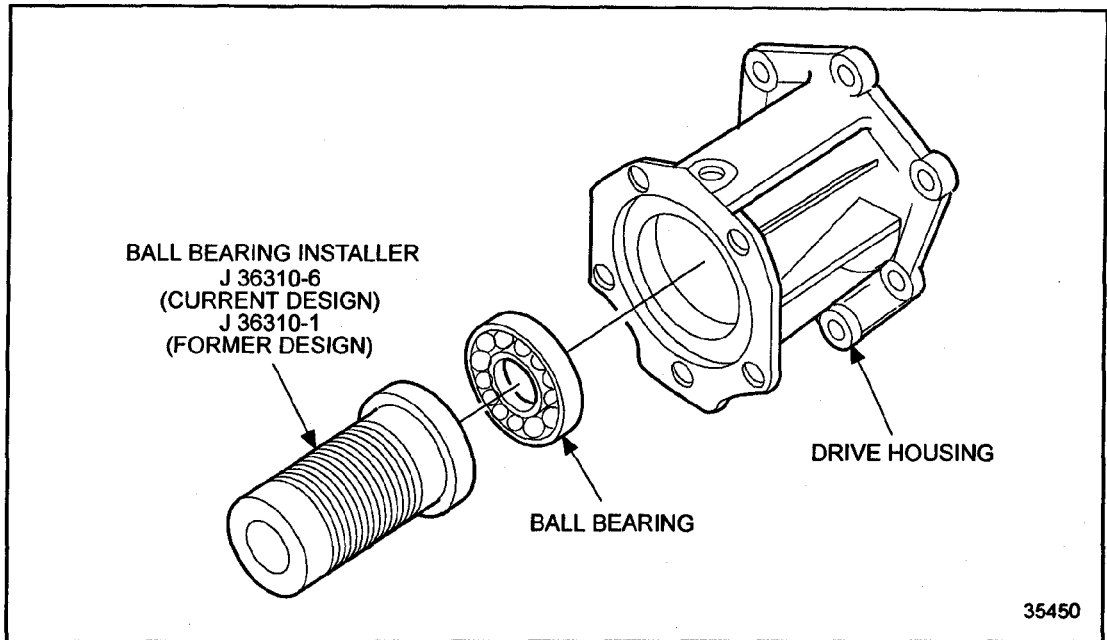

Figure 10-28 Ball Bearing Installation
6. Install the ball bearing in the drive housing using a press and the large end of the ball bearing installer, pressing only on the outer race of the bearing. See Figure 10-28.
7. Be sure the bearing is fully seated against the shoulder in the housing for the snap ring to be installed. See Figure 10-28.